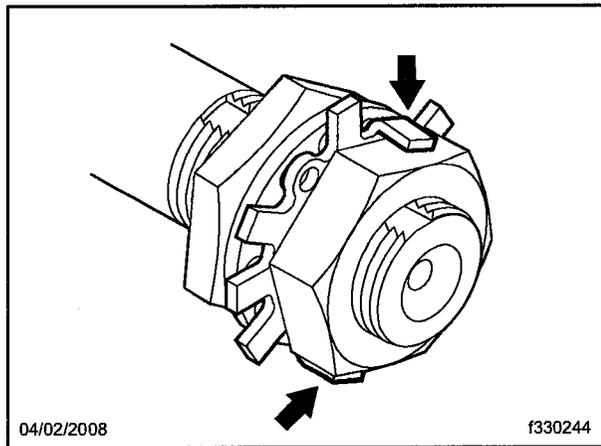

Fig. 11, Tabs Bent to Lock the Jam Nut
9. Bend the tabs on the locking washer at 6 o'clock and 12 o'clock to lock the jam nut in place. See **Fig. 11**.